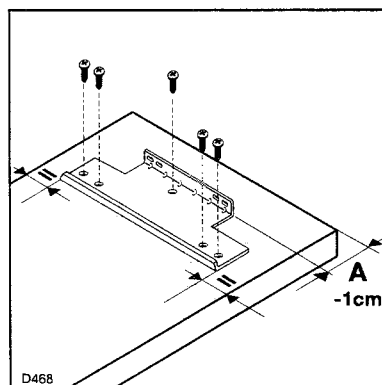

Fig. 7
Lay the panel face down (Fig. 7). Position the top bracket on the panel, making sure that there is an equal distance between it and the sides and that its distance from the top edge is equal to distance (A) less 1 cm.